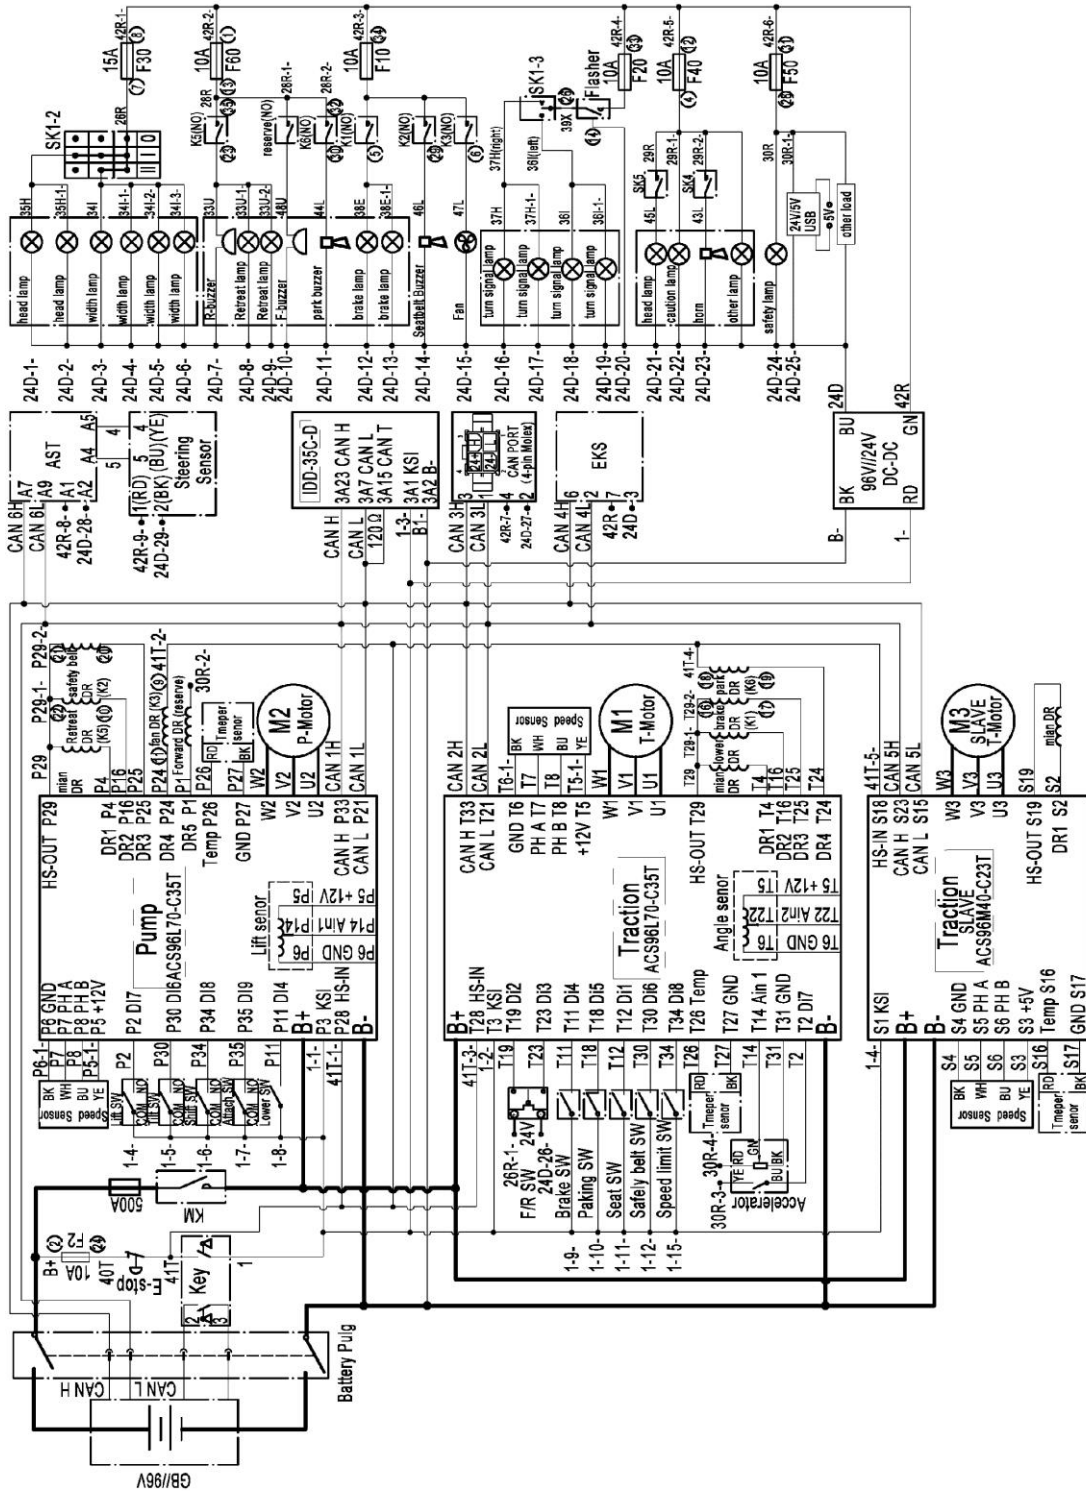

Figure2-23 Electrical schematic diagram—Inmotion
4.2.2 Electrical schematic diagram — Inmotion(Figure2-23)